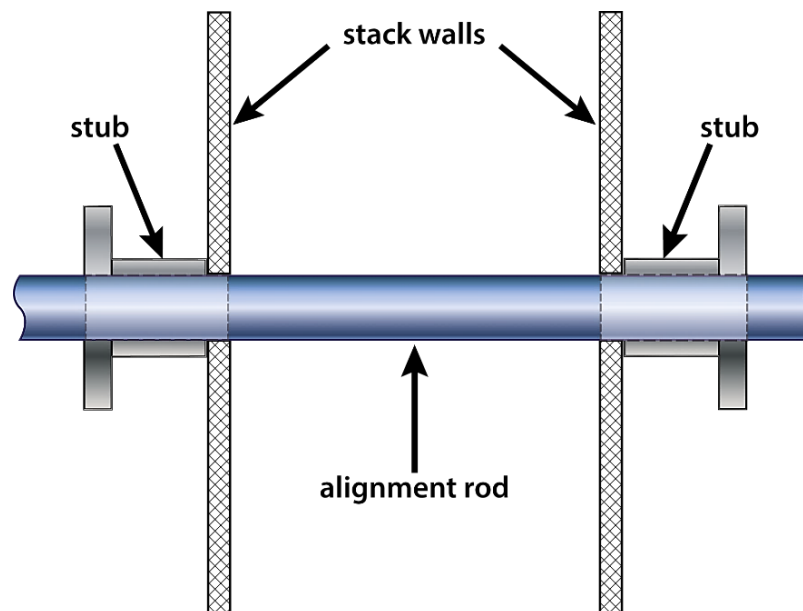

Figure 11: Fitting the stack mounting stubs.
1. Referring to **Figure 11**, cut a $\text{Ø}45 \text{ mm}$ ($1\frac{1}{2}''$) hole in one side of the stack/duct.